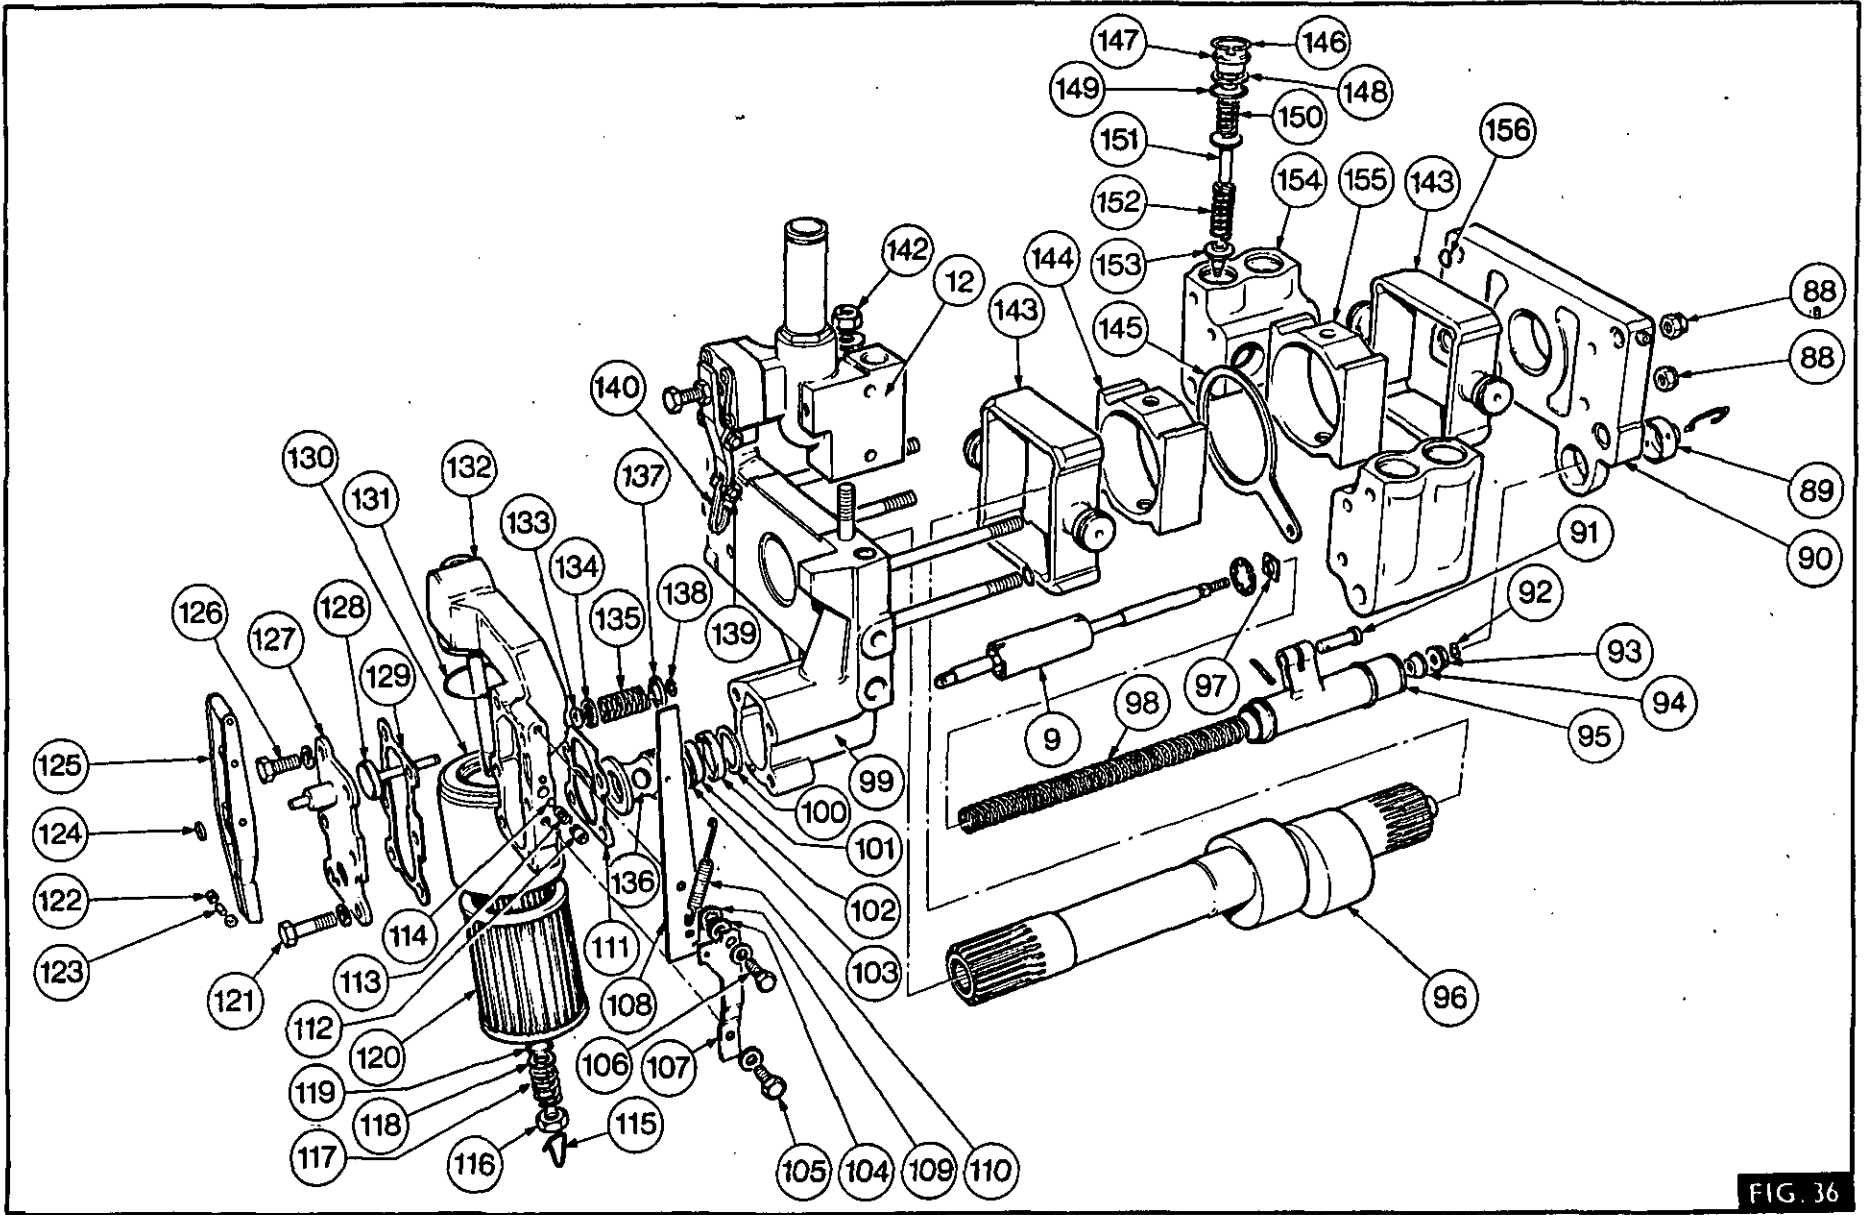

FIG. 36
2. Refit the inlet valve (153), inlet valve spring (152), outlet valve (151) and the outlet valve spring (150).
3. Fig. 36 and 38. Assemble a new back-up washer (148) and a new 'O' ring (149) to the plug (147), then using MF 351, push the plug into the valve chamber until the circlip groove can just be seen.